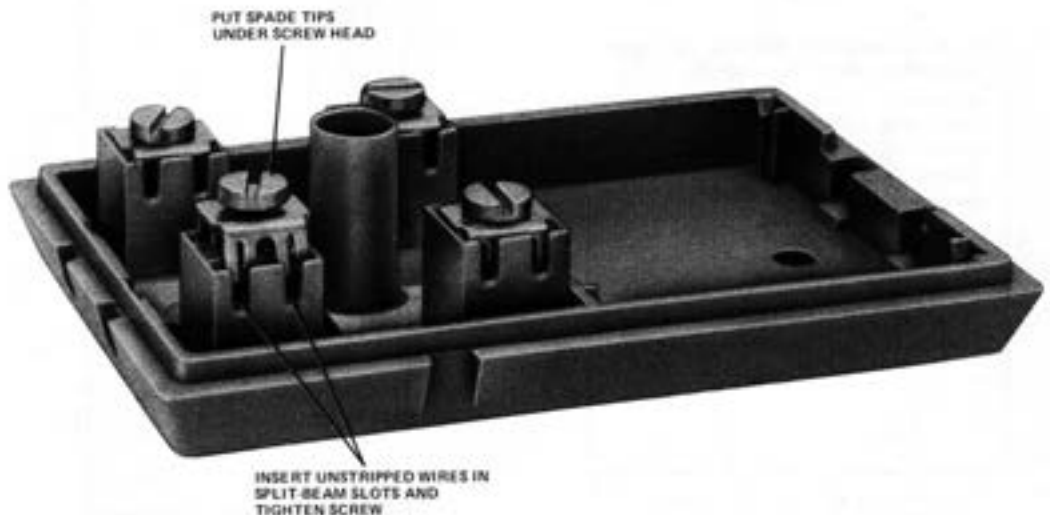

Fig. 9—Split-Beam Terminal Connections on 42E Connecting Block
3.07 Installation of the 42E connecting block is the same as the 42B except for the method of connecting the station wire conductors (Fig. 9). It is not necessary to strip the insulation from the conductors before inserting them into the notches under the split beams of the screw terminal assemblies. ●